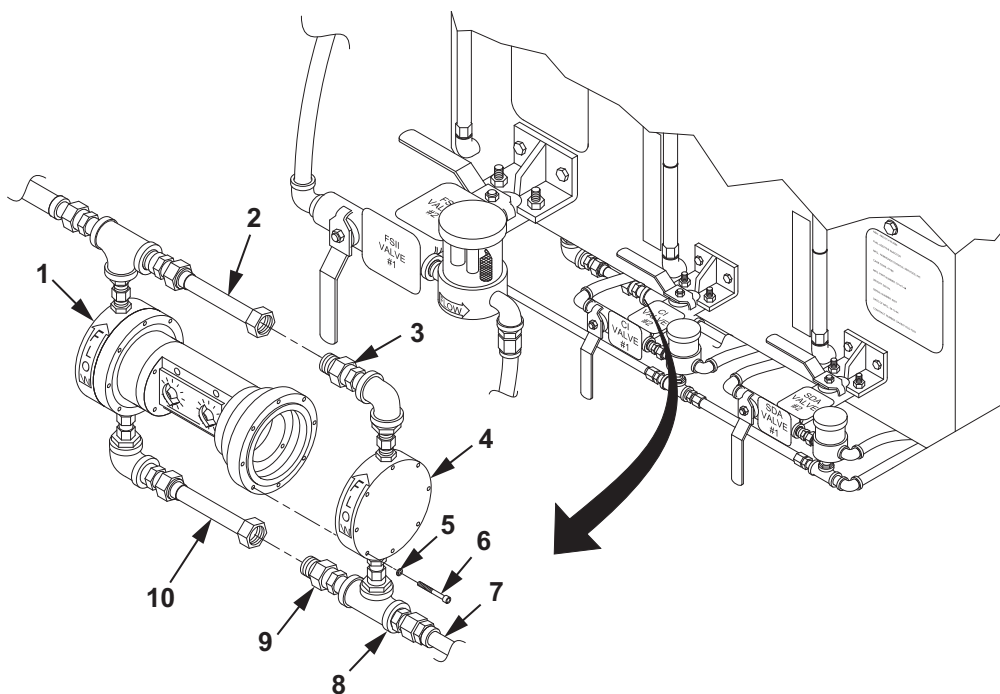

Figure 1. FSII Pump Fluid End Cap Removal.
1. Place drain pan below FSII pump (Figure 1, Item 1).
2. If required, disconnect tube assembly (Figure 1, Item 7) from tube adapter (Figure 1, Item 8).
3. Disconnect discharge tube (Figure 1, Item 2) from tube adapter (Figure 1, Item 3).
4. Disconnect suction tube (Figure 1, Item 10) from tube adapter (Figure 1, Item 9).
5. Remove eight screws (Figure 1, Item 6) and lockwashers (Figure 1, Item 5) from fluid end cap assembly (Figure 1, Item 4).
6. Discard lockwashers (Figure 1, Item 5).
7. Remove fluid end cap assembly (Figure 1, Item 4) from FSII pump (Figure 1, Item 1).